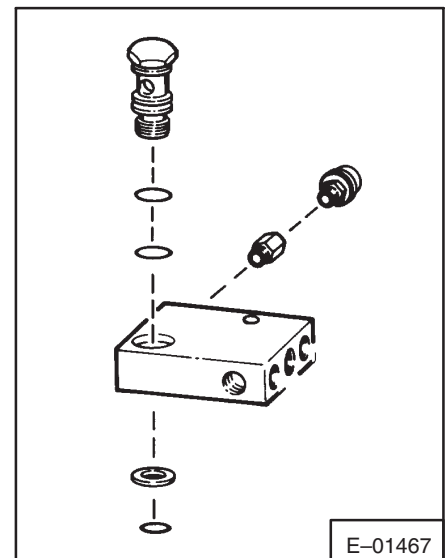

Fig. 3-32a Large Bolt And O-Rings
1. Install new O-rings on the large bolt (Fig. 3-32a).